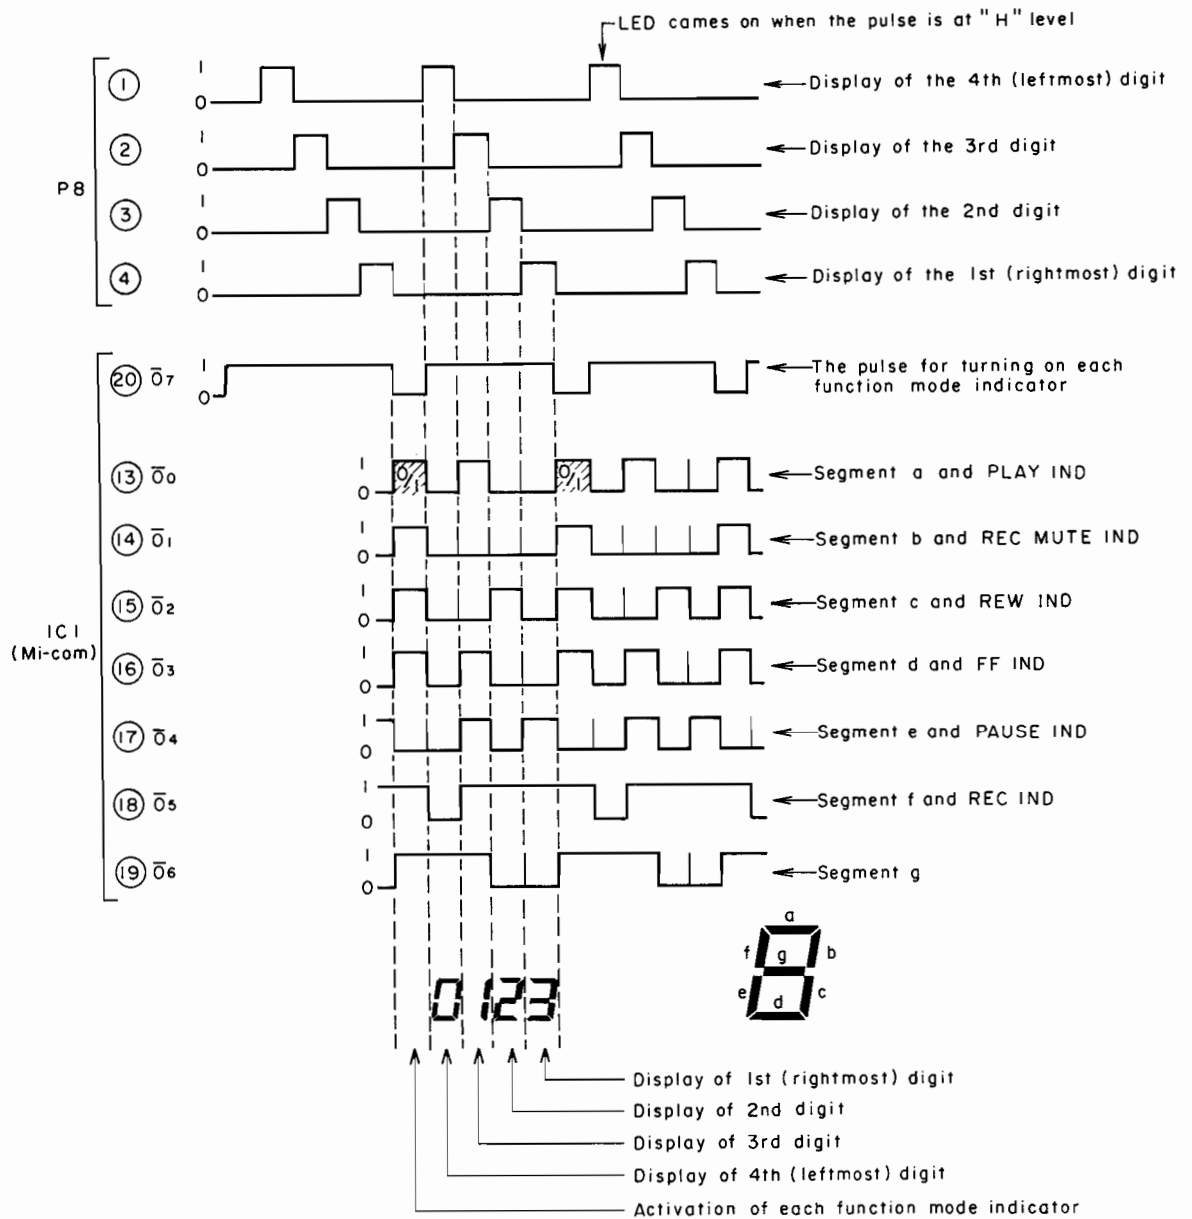

Fig. 46
Given here is an explanation of the PLAY/PAUSE mode illustrated as an example in Fig. 46. In the PLAY/PAUSE mode, the function mode indicator PAUSE stays "on", while the PLAY indicator blinks. The "Function Mode Ind." column (from  $O_0$  through  $O_5$ ) in Fig. 46 indicates that PAUSE IND is at "L" level, PLAY IND at "L/H" (blink) and the other INDs all at "H" level.
This is the principle on which a system known as the dynamic display system is based. Fig. 46 shows the timing chart of the dynamic display system. The waveforms appearing at ① through ④ of P8 are used to shift each LED digit to be lighted in sequence: for example, it can be seen from Fig. 46 that the rightmost digit comes on only when the waveform P8 ④ is at "H" level. The signal levels appearing at  $O_0 - O_6$  when the P8 ④ is at "H" determine which segments of the digit are to be turned on to display a specific number. Also, since segments of the LED display are of "anode common", each segment comes on when the signal level at  $O_0$  through  $O_6$  is "L".
As an example in Fig. 46, the rightmost digit has its segments a-d and g turned on and segments e and f turned off, resulting in the number 3 being displayed. The remaining digits also have their respective segments either turned on and off